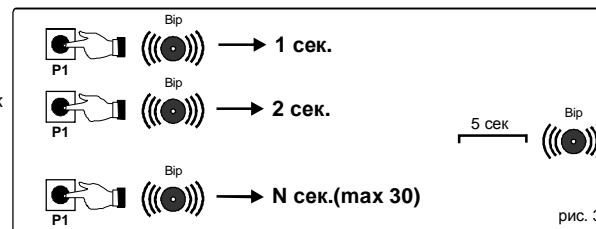

рис. 3
1) Keep pushed the button P1 for 4 sec. until the buzzer makes one bip (Fig. 3);
1) Keep P1 pressed down until the buzzer BUZ emits a short bip (Fig. 3);